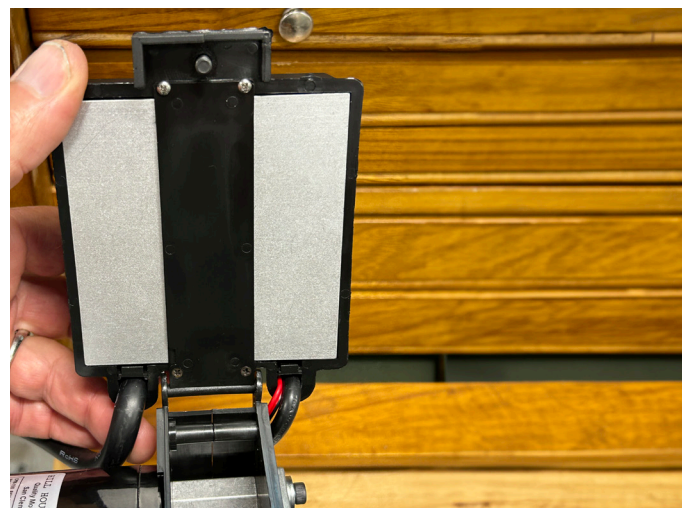

FIGURE 3
B. Flip the housing up (see Figure 3).